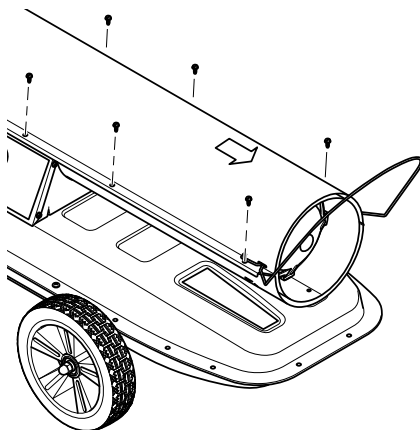

Figure 5 - Upper Shell Removal
1. Remove screws along each side of heater using 5/16" nut-driver. These screws attach upper and lower shells together. See Figure 5.
1. Remove upper shell (see Figure 5, page 9).